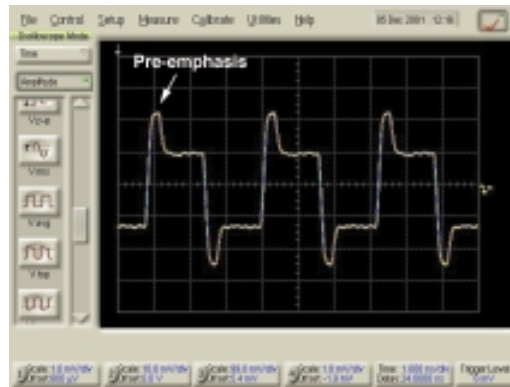

Figure 2: Illustration of pre-emphasis
3. Interoperability – Most vendors for multi-gigabit SERDES components utilize transmit pre-emphasis method. This ensures interoperability between various vendors. In the case of transmitter with pre-emphasis and receiver with equalization, the link would work fine. However, if a transmitter does not have pre-emphasis, and the receiver does not support equalization, the link may not work with acceptable BER for long channels. Figure 2 illustrates the concept of pre-emphasis. The signal is boosted at every bit transition on both positive and negative sides.